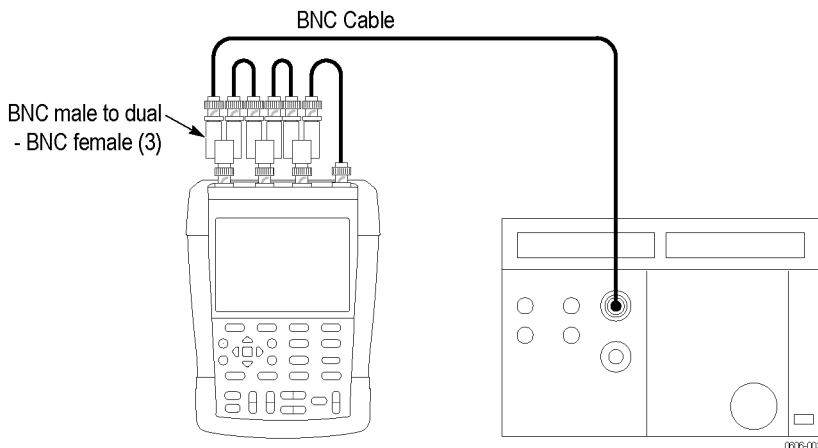

Figure 12: Input LF-HF gain test setup
2. Connect the instrument to the 5500A as shown. (See Figure 12.)